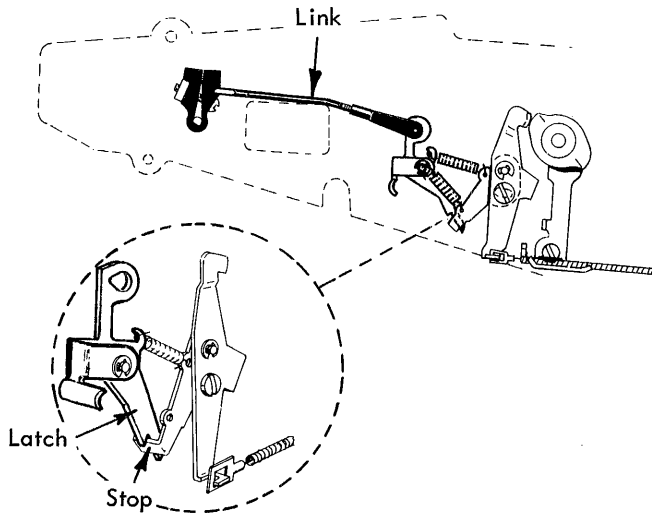

FIGURE 142.11 Low Velocity Latch Link
9. Low Velocity Latch Link - Adjust the low velocity latch link (Fig. 142.11) in the following manner: With the machine latched at rest and the low velocity latch held against the adjusting stop on the cam follower, match the pin clevis on the link with the hole in the latch. When matching the clevis, be sure to hold the link toward the rear of the machine so that the low velocity vane will be against the tail of the interposers.